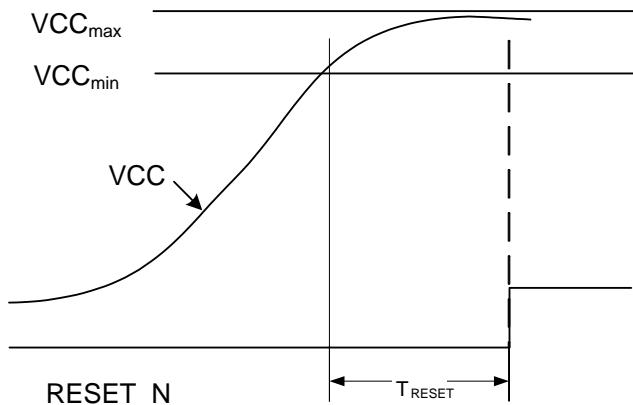
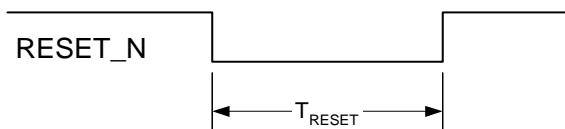

Figure 4.1. Conditions for Use of RESET_N
Figure 4.2. RESET_N Minimum Timing
1. Reset on RESET_N signal can be LOW as the supply becomes stable (shown in Figure 4.1 on page 20), or pulled LOW for at least T_{RESET} (shown in Figure 4.2 on page 20).
VCC must be stable between the limits shown in the Normal Operating Conditions section on page 13 for T_{RESET} before RESET_N goes HIGH, as shown in Figure 4.1. Before accessing registers, RESET_N must be pulled LOW for T_{RESET} . This can be done by holding RESET_N LOW until T_{RESET} after stable power, or by pulling RESET_N LOW from a HIGH state for at least T_{RESET} , as shown in Figure 4.2.